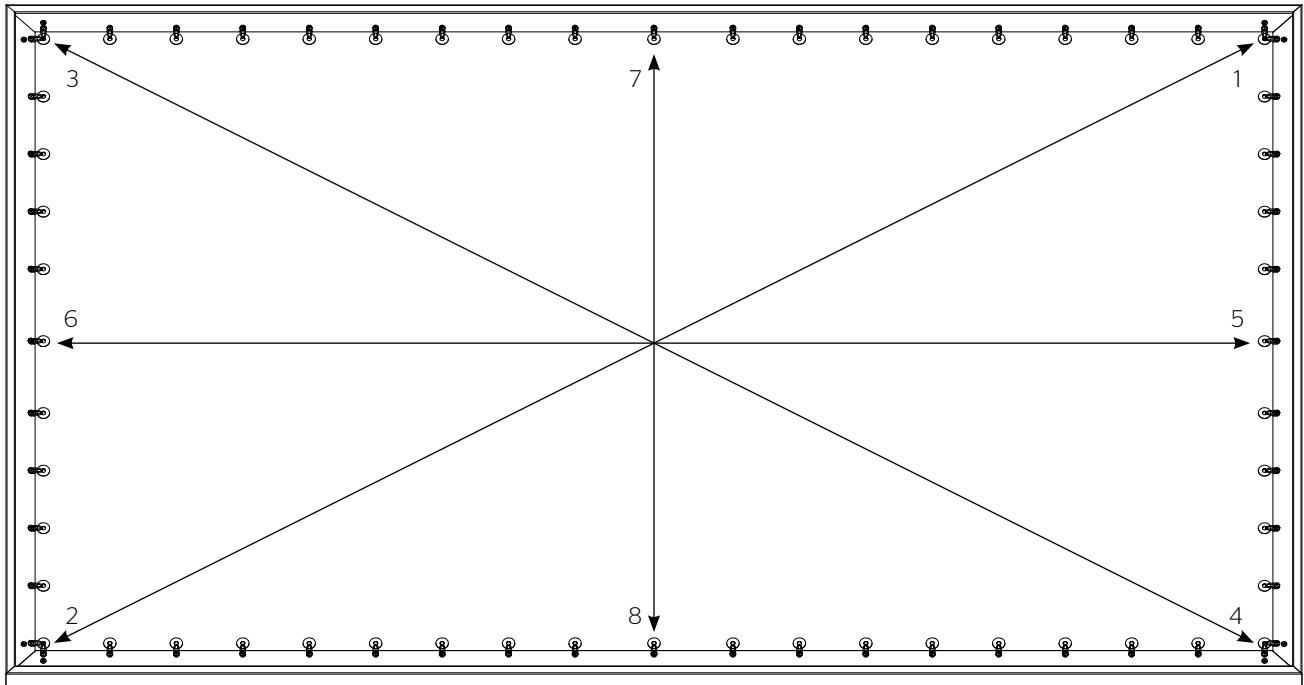

Figure 4
- Repeat Step 4 for the remaining three corners of the screen. Use the sequence shown in Figure 4.
- Insert one elastic ring into the center hole on the right, left, top and bottom of the screen surface and secure it over the stud. Use the sequence shown in Figure 4.